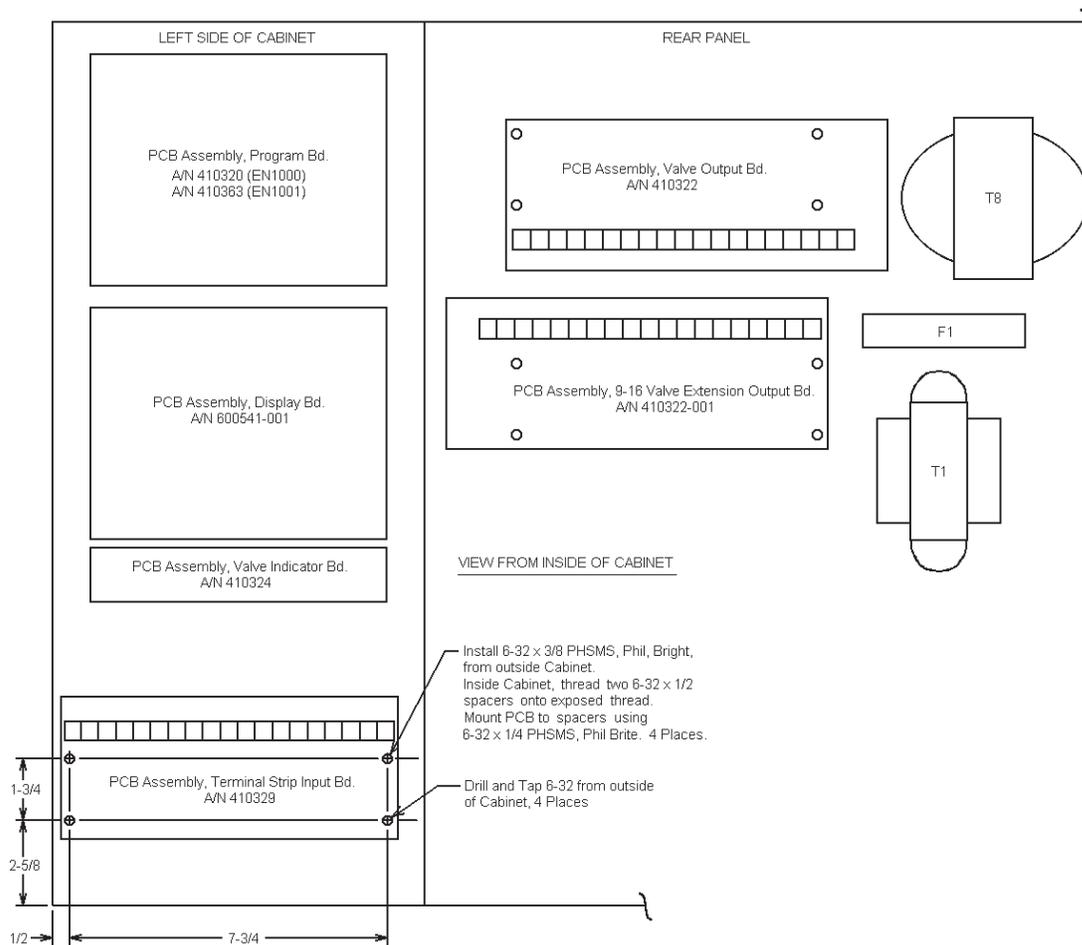

Figure D4. Mounting detail for “T/D” Cabinet
3. Remove the four (4) screws and Terminal Strip Input Board (A/N 410329) from rear panel of cabinet.
4. Drill and tap the left side of the cabinet per Figure D4, be sure to vacuum or otherwise remove ALL metal chips before installing four (4) 6-32 x 3/8 PHSMS, Phil, Brite from outside of cabinet. On the inside of the cabinet, mount two (2) 6-32 x 1/2 spacers (P/N 555031) on each exposed thread (4 places) to offset PCB 1" from cabinet wall.
5. On rear panel, add extra spacer (P/N 555031) to each standoff if needed (spacing should not exceed 1"). Mount 9-16 Valve Extension PCB (A/N 410322-001 or -003) to the four standoffs on the rear panel using four (4) 6-32 x 1/4 PHSMS, Phil, Brite, rotate board as shown in Figure D4.
6. Move Terminal Strip Input PCB (A/N 410329) to spacers on left side of cabinet using four (4) screws previously removed. See Figure D4.